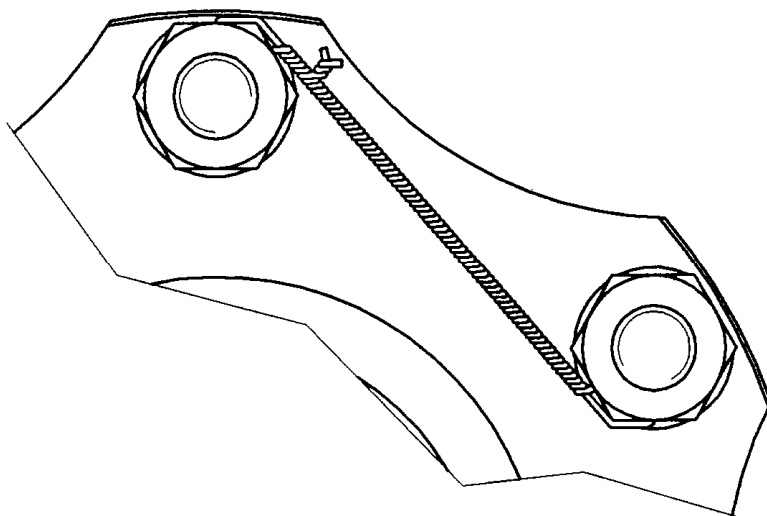

Fig.207 Nut pair against loosening securing by using of binding wire
- (f) Tighten the nuts (9) by means of the wrench (201-11) with torque stick (201-12) (specified tightening torque see table 202). After the tightening secure the pair of nuts by wire 0,03 in (ø0,8mm) (see fig. 207).